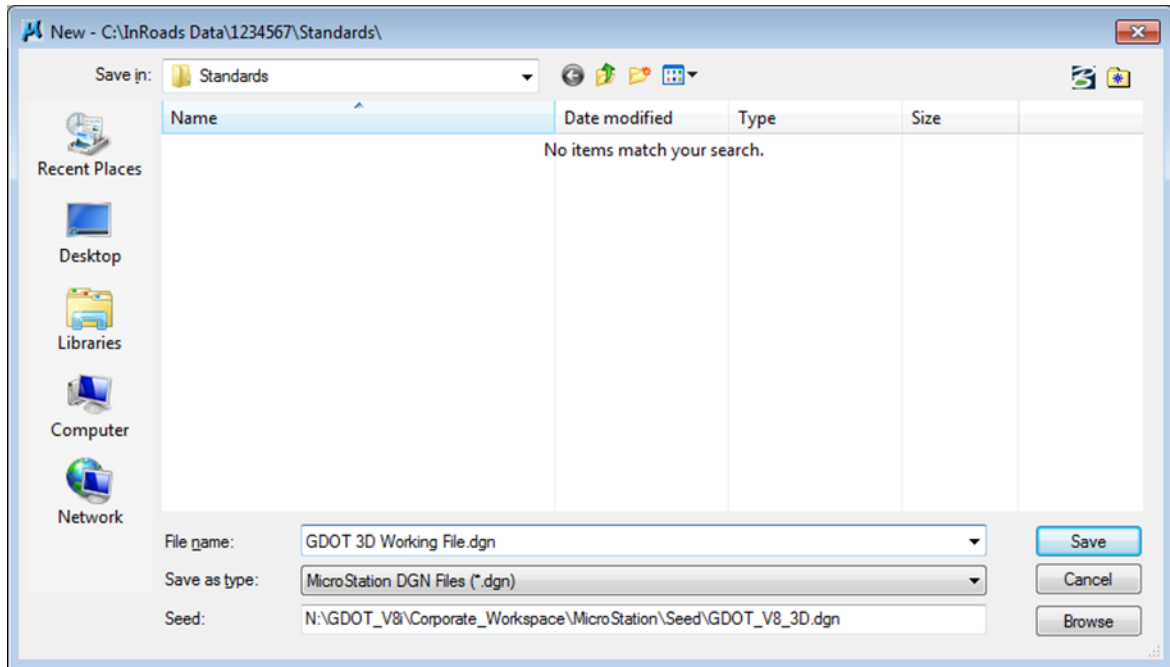

Figure 1-2 MicroStation New File Window
4. After the **New File**  command is selected, the **MicroStation New File** dialog box will open. (See *Figure 1-2*).
The inputs should now be similar to the screen capture depicted in *Figure 1-2* (as shown below).